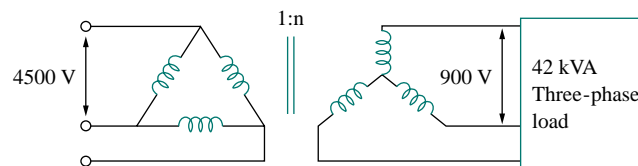

Figure 13.121 For Prob. 13.56.
- 13.56** A balanced three-phase transformer bank with the Δ -Y connection depicted in Fig. 13.121 below is used to step down line voltages from 4500 V rms to 900 V rms. If the transformer feeds a 120-kVA load, find: